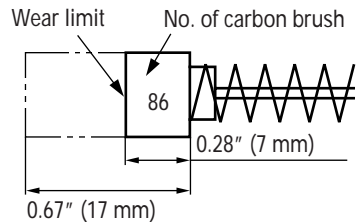

Fig. 9
4. Inspecting the carbon brushes (Fig. 9)
The Motor employs carbon brushes which are consumable parts. When they become worn to or near the "wear limit", it results in motor trouble. When an auto-stop carbon brush is equipped, the motor will stop automatically. At that time, replace both carbon brushes with new ones which have the same carbon brush Numbers shown in the figure 9. In addition, always keep carbon brushes clean and ensure that they slide freely within the brush holders.
Use HITACHI carbon brush No. 86 indicated in Fig. 9.